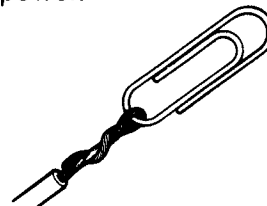
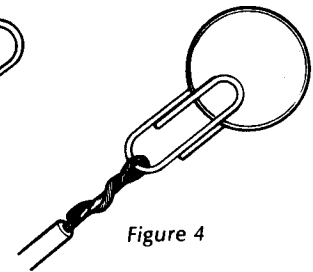

Figure 3
Figure 4
- (1) Get everything ready before you open your bottle or can of beer, to ensure it does not lose any of its 'fizz' before you are ready. This step also ensures there is enough beer left over to make the power cell!
- (2) Take the four lengths of insulated hook-up wire and remove approx. 4cm of insulation from each end. Twists the strands of wire together then wrap them around and around each of the four paper clips (one clip per end of wire!) as shown in fig. 3.
- (3) The nails, coins and paper clips must be very clean to work properly. If the nails are not shiny bright, clean them with some emery cloth or scrape them with an old knife. If the coins are tarnished, clean them with a little toothpaste on a cloth. This cleaning is necessary to ensure good electrical contact with the beer.
- (4) Clip a nail onto paper clips one, three and five. Onto the remaining clips (two, four and six) clip your shiny two cent coins as shown in figure 4.
- (5) Half fill your glasses with beer. Keeping all the coins and nails on the clips, lower them into the beer. Clips one and two go in the first glass, three and four in the second glass, five & six in the third glass.
- (6) Try not to let any of the paper clips touch the beer. If you do, the power available from the beer cell will be drastically reduced. Submerge only as much of each coin and nail as you can without getting the clip wet. Hold the coins and nails in the right place by bending the wire sharply back over the lip of the glass.